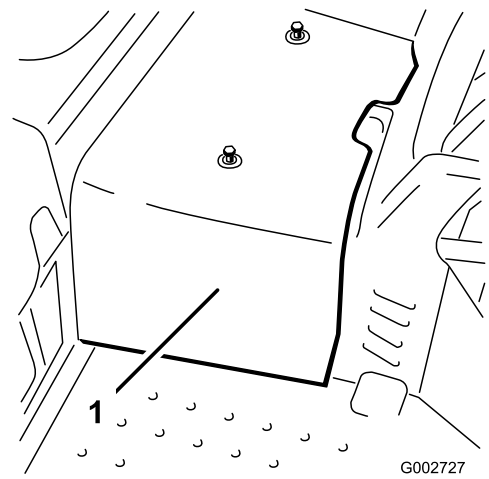

Figure 36
2. Loosen the 2 screws securing the center shroud to the machine and remove the shroud (Figure 36).